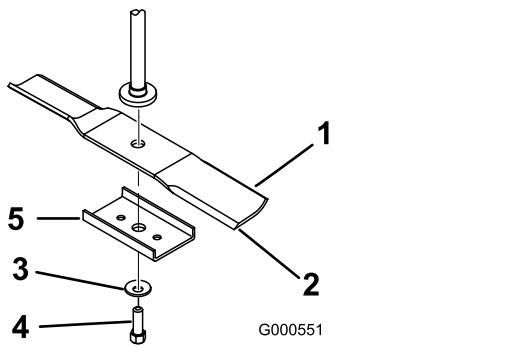

Figure 49
2. Remove the blade bolt, curved washer, and blade from the spindle shaft (Figure 49).
1. Install the blade onto the spindle shaft (Figure 49).
2. Install the blade stiffener, curved washer (cupped side toward the blade), and blade bolt (Figure 49).